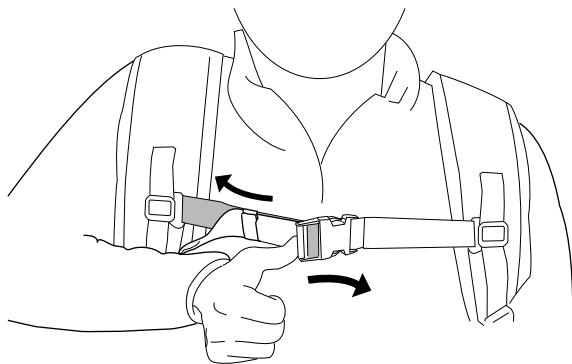

Figure 15
- If the sternum strap is too tight, push sideways on the adjuster to lengthen the straps (Figure 15).